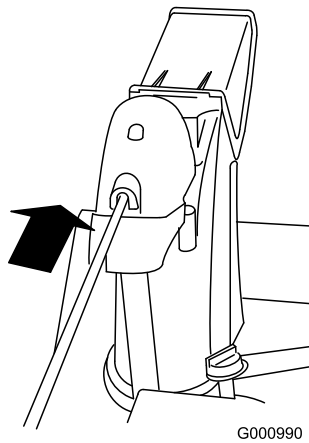

**Figure 14**
3. Align the flattened back end of the long chute control rod with the flattened front end of the short rod that extends from the control panel so that they nest together (Figure 14).